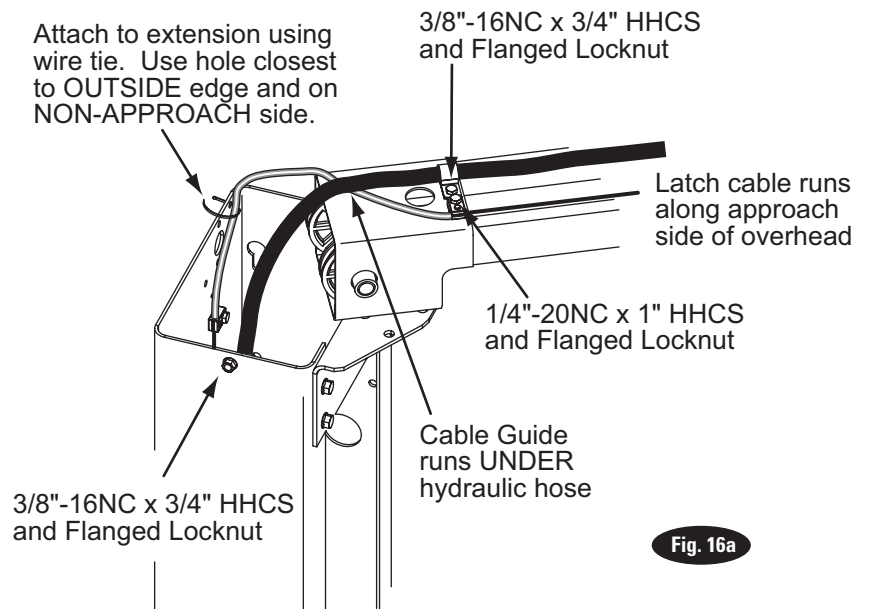
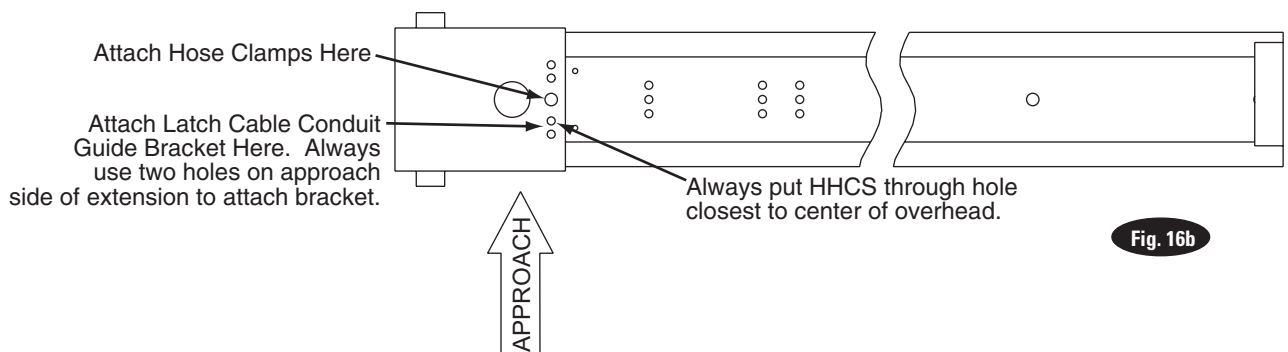
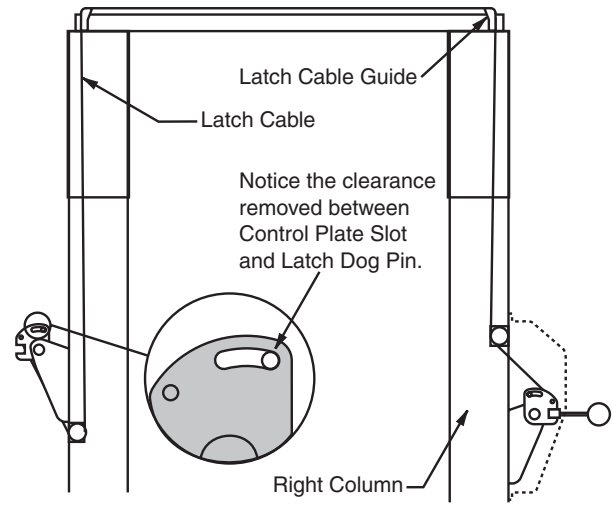
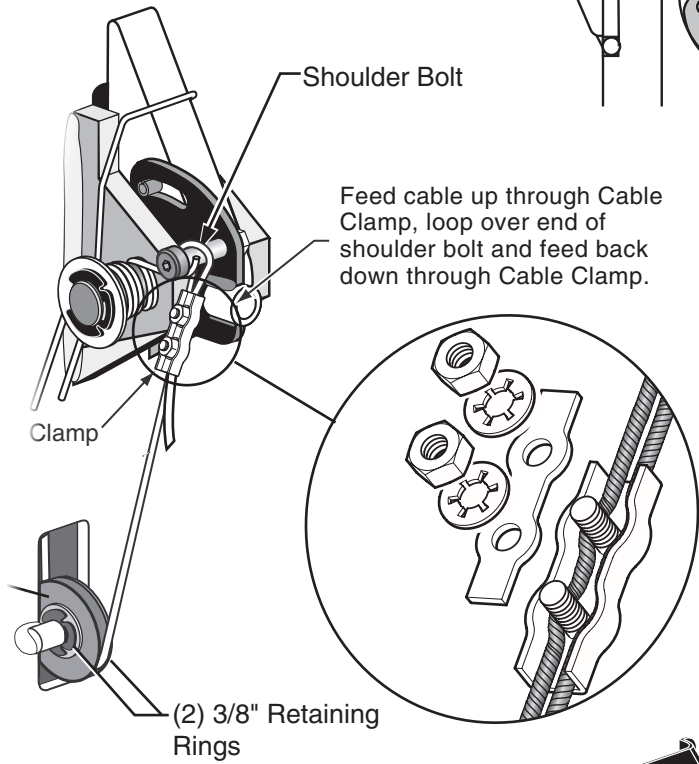

Fig. 16a
Fig. 16b
Fig. 18
Fig. 19
- D) Attach latch cable conduit guide brackets to overhead as shown, Fig. 16a & Fig. 16b. Always use the holes on the approach side of the lift. HHCS should be in hole nearest the center of the overhead, Fig. 16b.
- E) Route cable up inside column and through the latch cable guide, Fig. 16a & Fig. 18.
- IMPORTANT** Using wire ties provided, tie off cable guide to column extension as shown, Fig. 16a. Guide must be attached in hole closest to the outside edge of the column on the NON-APPROACH side.
- F) Continue routing cable to the left column latch cable guide, Fig. 16a & Fig. 18, routing the cable through the left column latch cable guide, Fig. 16a.
- G) Bring the cable down inside the left column and feed the end of the cable through the lower latch cable sheave slot so that the cable is now back outside the column, Fig. 19.
- H) Install latch cable sheave and retaining rings in lower slot of non-power unit column as shown, Fig. 19.
- I) Route cable under the bottom side of the latch cable sheave, Fig. 19.
- K) Insert cable in cable clamp along one side, loop around shoulder screw and back down, inserting cable along other side of cable clamp, Fig. 19. Place top back on clamp, barely tightening.
- L) Next, pull the control plate down, Fig. 18 & Fig. 19, to eliminate any clearance between the control plate slot and the latch dog pin, Fig. 18.